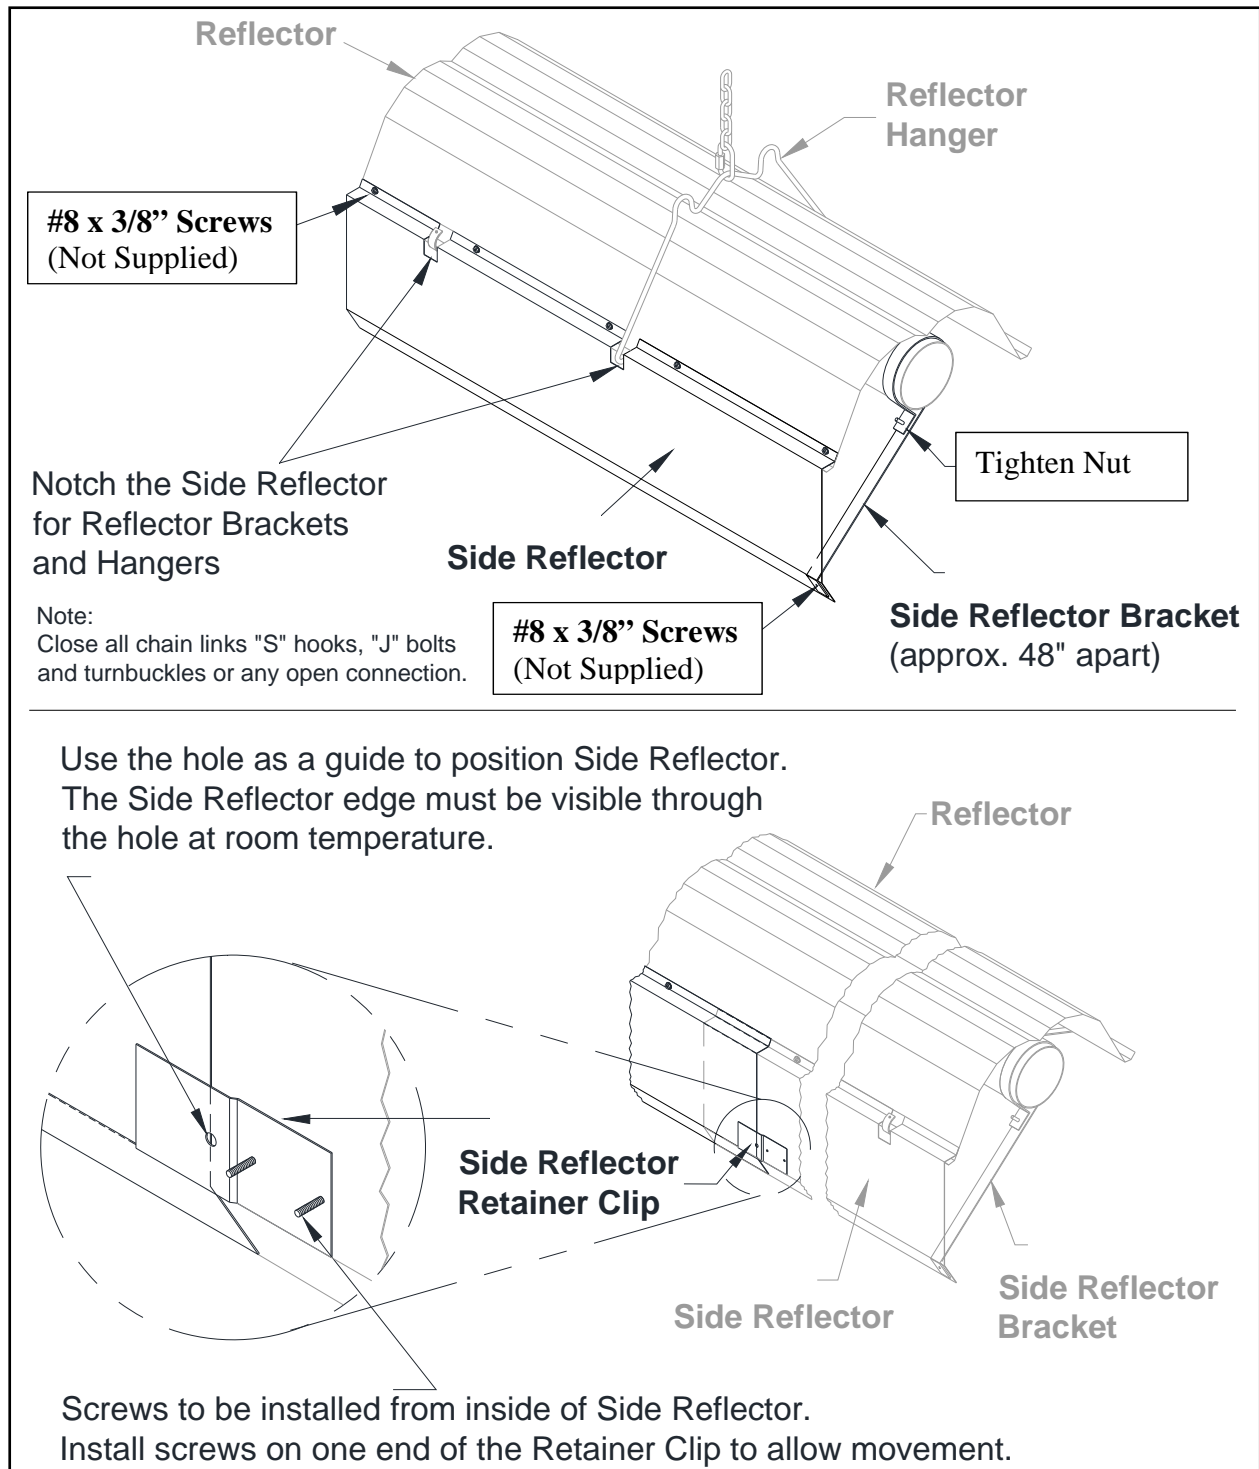

**Figure 18: Mitered Reflector Installation**
*Note: Elbows or U-tubes are typically installed without reflectors. To reduce the above clearance to combustibles distance use miter reflectors (see **Figure 18**) and refer to Clearance to Combustibles information.*
- If used, install the Mitered Reflector as shown below (**Figure 18**).